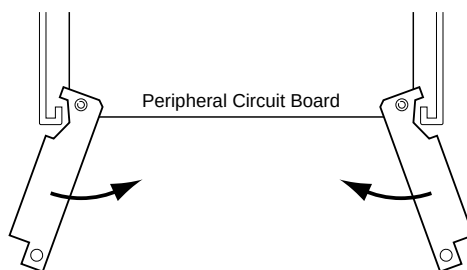

Fig. 2.1.2 Installing the Peripheral Circuit Board
- (3) Once the S5U1C63002P board has been inserted almost fully into the ICE, secure it in position by using the jig supplied with the ICE (see Figure 2.1.2).
- (4) In a similar fashion to Step (2), insert the S5U1C63003P board into the ICE along the uppermost guide rails (upper slot).
- (5) In a similar fashion to Step (3), secure it in position.
- (6) When the above is done, replace the front panel.